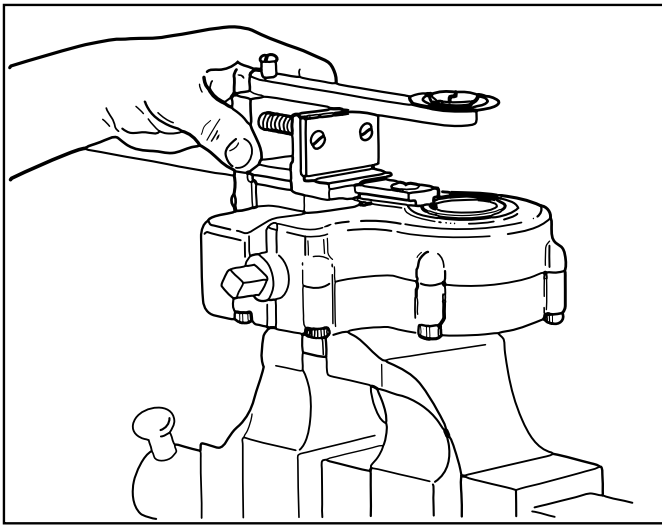

Figure 2. Clamping the Tube Bender Proper in a Vise
12. SETTING UP THE MACHINE. (See Figure 2.)